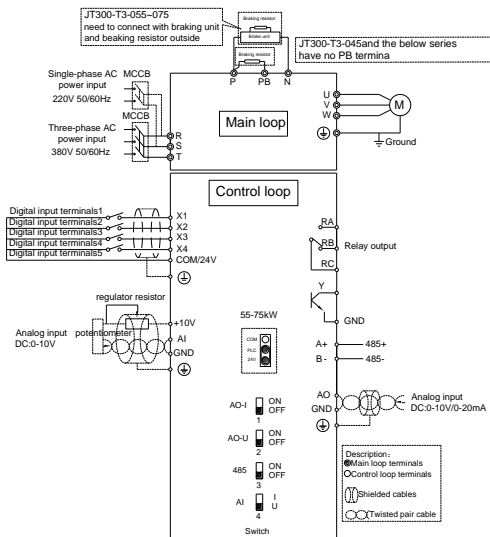

Figure 3-3 Schematic diagram of 55-75KW wiring
- 4) The 55-75KW connection mode of JT300 series frequency converter is shown in figure 3-3